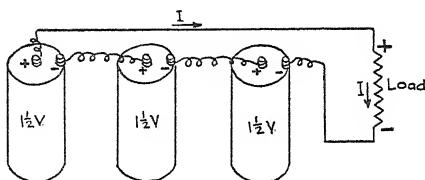

FIG. 62. Series connection for greatest voltage.
72. Connections for Most Voltage. Connecting generators or batteries in series will produce the greatest voltage, provided one precaution is observed. Always connect the units as shown in Figure 62, with $+$ to $-$ connections so the current never flows the wrong way through any one unit. "B" batteries for radio use are wired this way, with all cells in series.
In a series battery circuit, the voltages add. For example, in the circuit in Figure 62, the total voltage will be about 1.5×3 or 4.5 volts. The current through each cell will, of course, be the same.